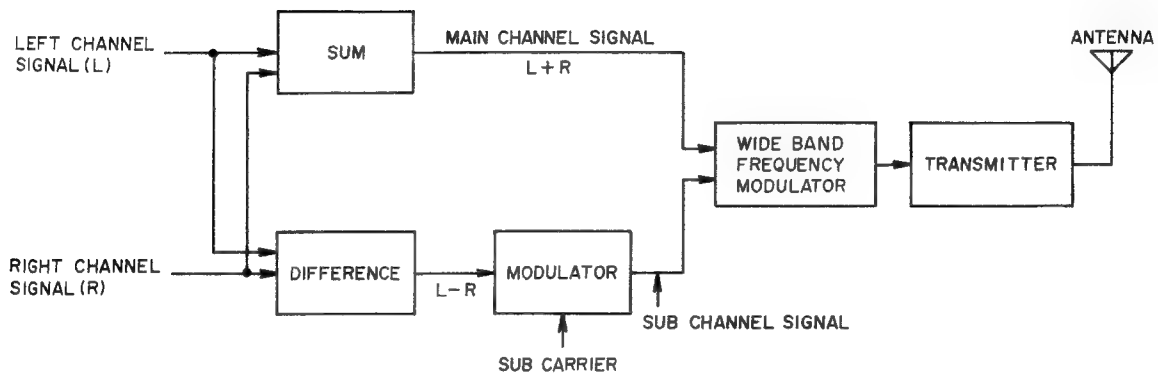

Fig. 14 FM Broadcasting System Diagram
As shown in Fig. 14 for FM broadcasts, the sum signal (L+R) consists of left signal (L) and right signal (R) and the audio frequency band of this signal in its original form is frequency modulated.